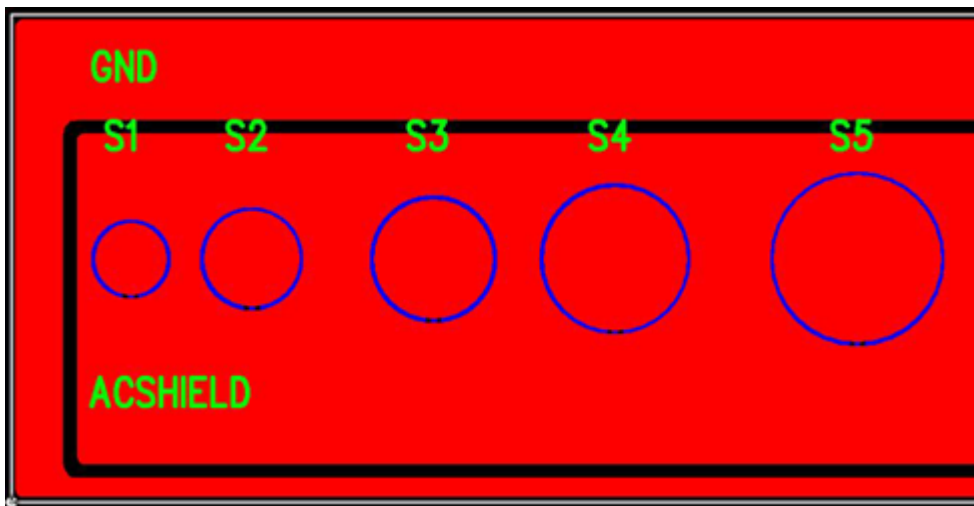
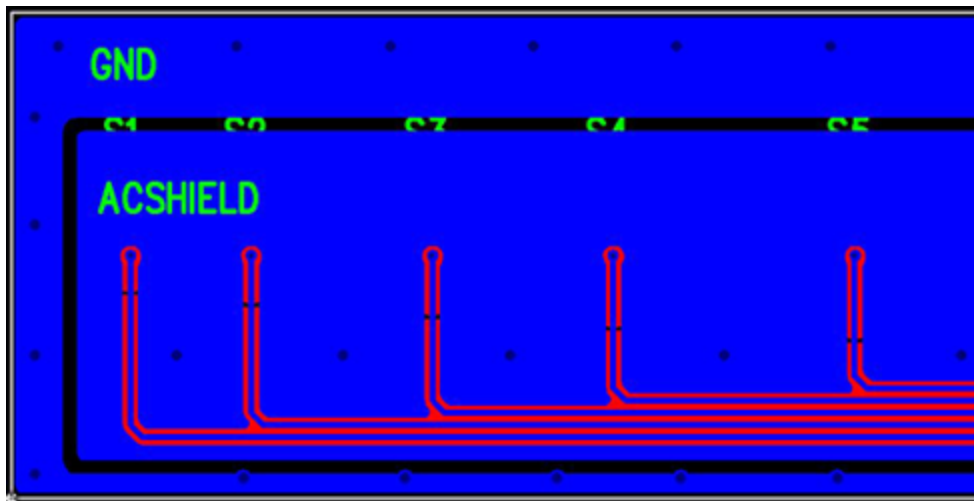
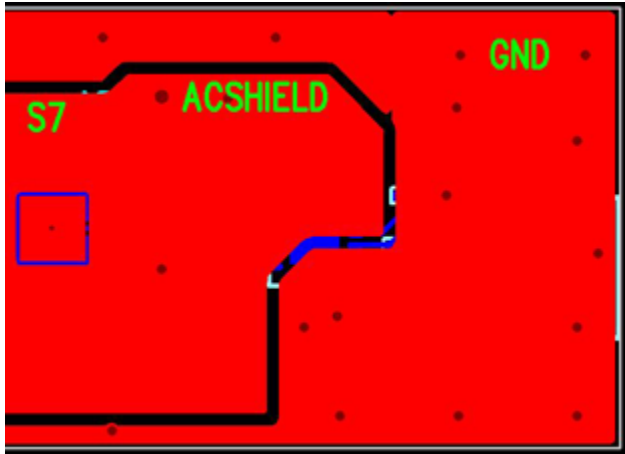
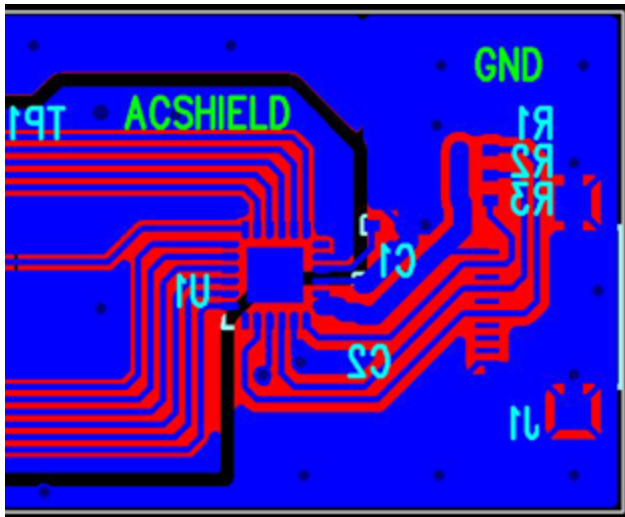

Figure 1. Sensor Layout Example, Top Layer
Figure 2. Sensor Layout Example, Bottom Layer
Figure 3. AD7147 or AD7148 Layout Example, Top Layer
Figure 4. AD7147 or AD7148 Layout Example, Bottom Layer
- Place an  $AC_{SHIELD}$  plane around the sensors and sensor traces on all of the layers of the PCB. The  $AC_{SHIELD}$  plane should be at least 1 mm around the sensors and sensor traces (see Figure 1 through Figure 4 for layout examples).
- Place the ground plane around the serial interface and any other nonsensor area of the PCB. The distance between an  $AC_{SHIELD}$  plane and ground plane can be 0.2 mm or 0.4 mm, depending on manufacturing tolerances (see Figure 1 and Figure 2).
- When laying out the AD7147 or AD7148, an  $AC_{SHIELD}$  plane should be routed around the  $C_{IN}$  traces and pins, while a ground plane should be routed around the serial interface and other digital pins (see Figure 3 and Figure 4).
In addition to using ESD protection devices, it is recommended to place an  $AC_{SHIELD}$  plane 2 mm in width around the sensors and sensor routing to the AD7147 or AD7148. A ground plane should be placed outside of this area extending to the board outline. This ensures the ESD pulse finds the path of least resistance to ground rather than onto the  $AC_{SHIELD}$  or  $C_{IN}$  traces. The example layouts in Figure 1 through Figure 4 show where to place the ground and  $AC_{SHIELD}$  planes on the sensor PCB.